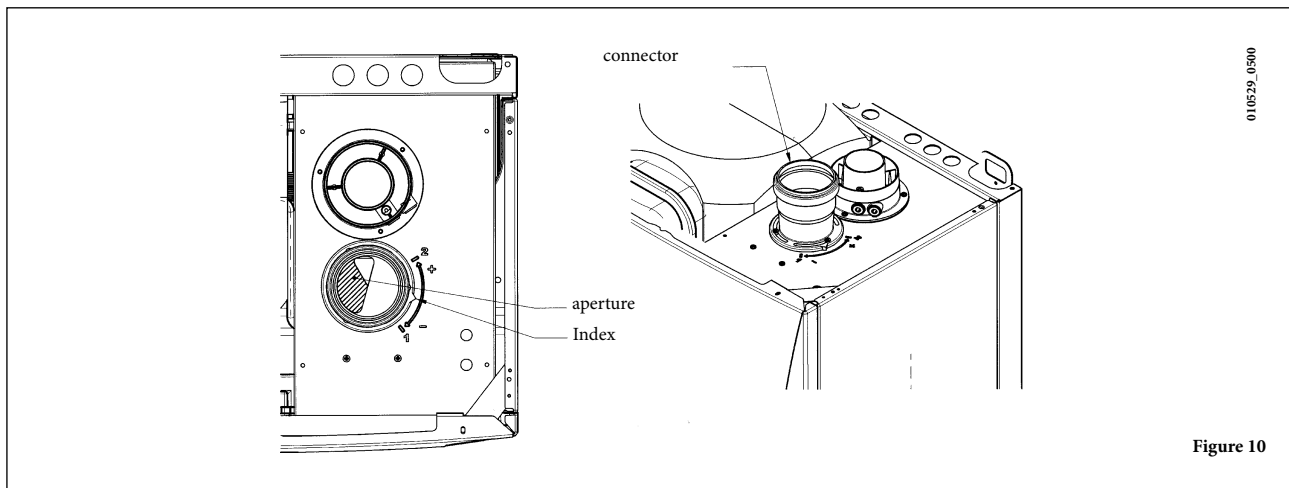

Figure 10
- remove the cover and access the wiring area (figure 10).